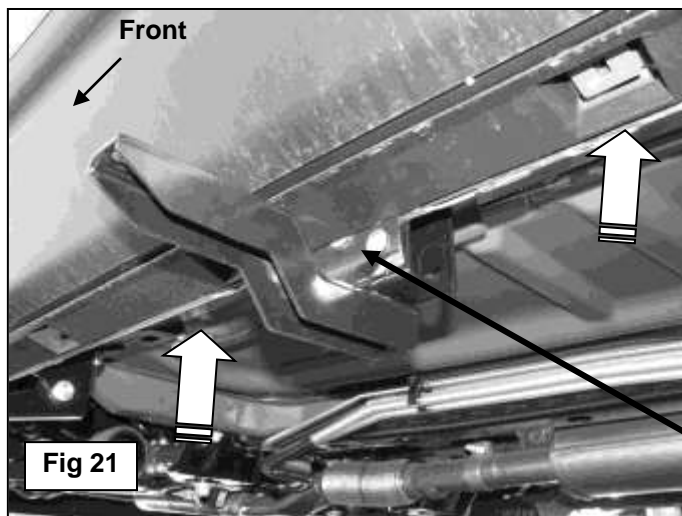

Fig 21
17. Reinstall the center Bracket assembly, (**Figures 20 & 21**). Line up the outer Clamp Plate with the drilled hole. Pull the plastic cover back a little, (**Figure 21**), and insert (1) 8mm Carriage Bolt through the center hole in the Outer Clamp Plate, the drilled hole and into the Bracket. **IMPORTANT:** Release the factory plastic clips in the bottom of the plastic rocker cover for easier installation of the 8mm Carriage Bolt, (**Figure 21**). Secure the Bracket to the center bolt with (1) 8mm Flat Washer and (1) 8mm Nylon Lock Nut, (**Figures 22 & 23**).